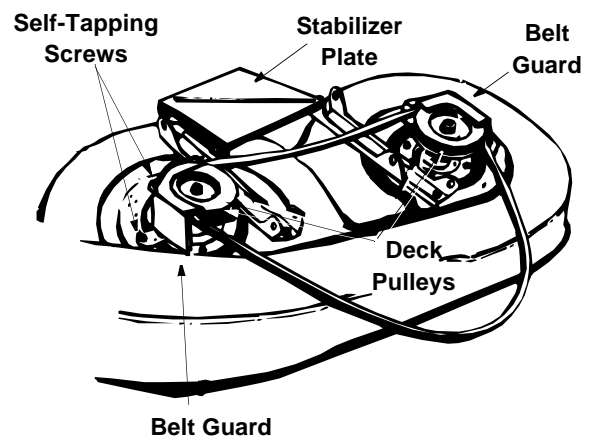

Figure 23
- Remove the belt guards at each deck pulley by removing the self-tapping screws. See Figure 23.